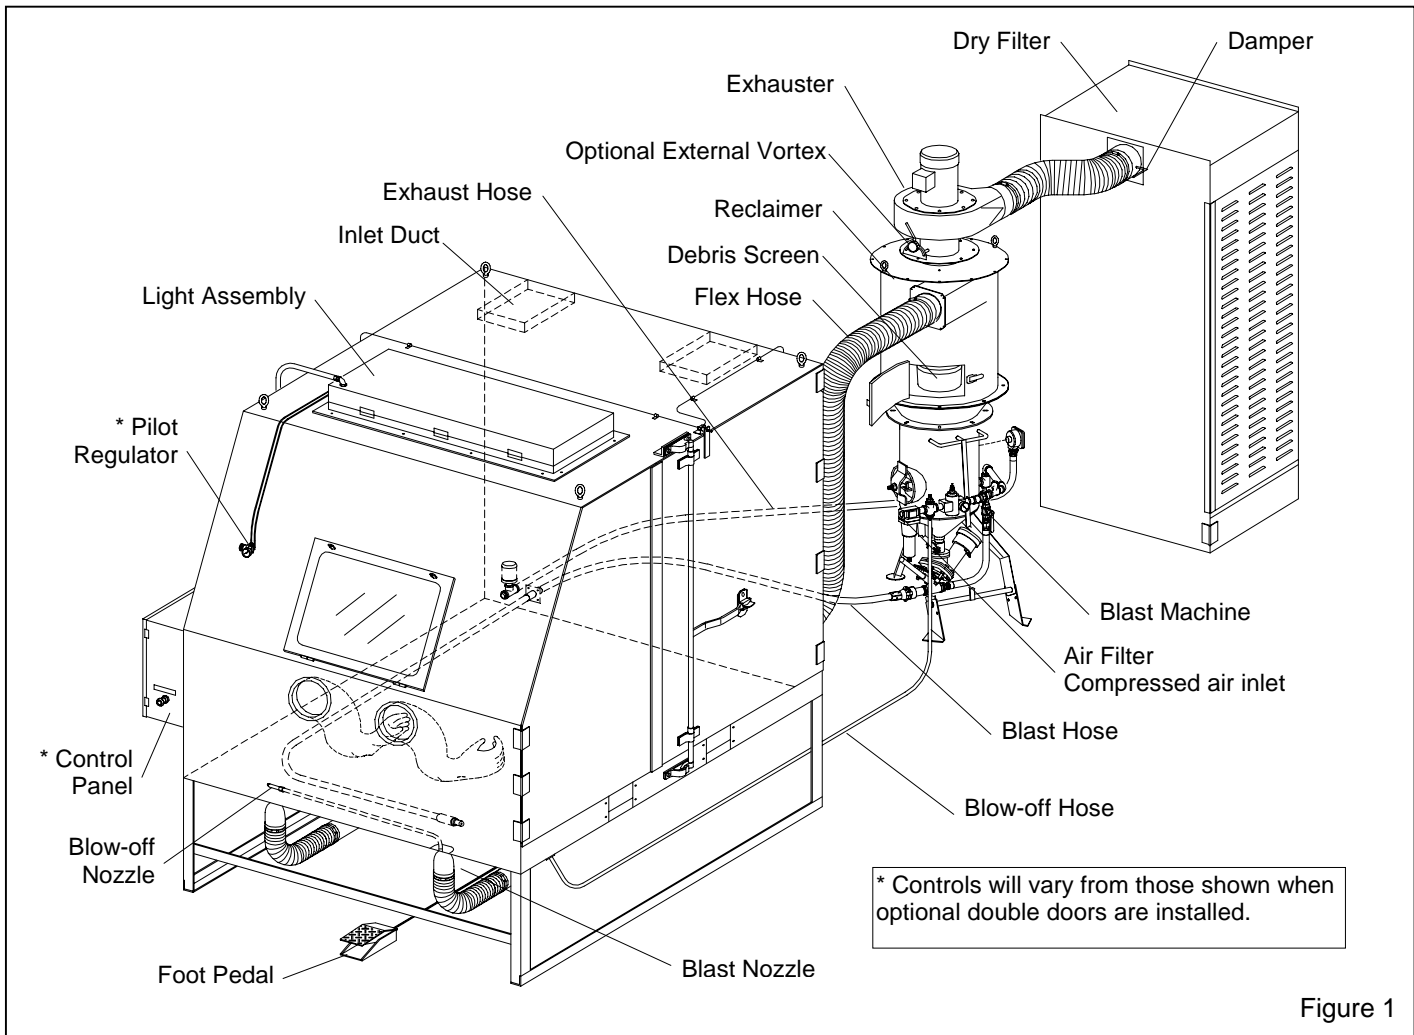
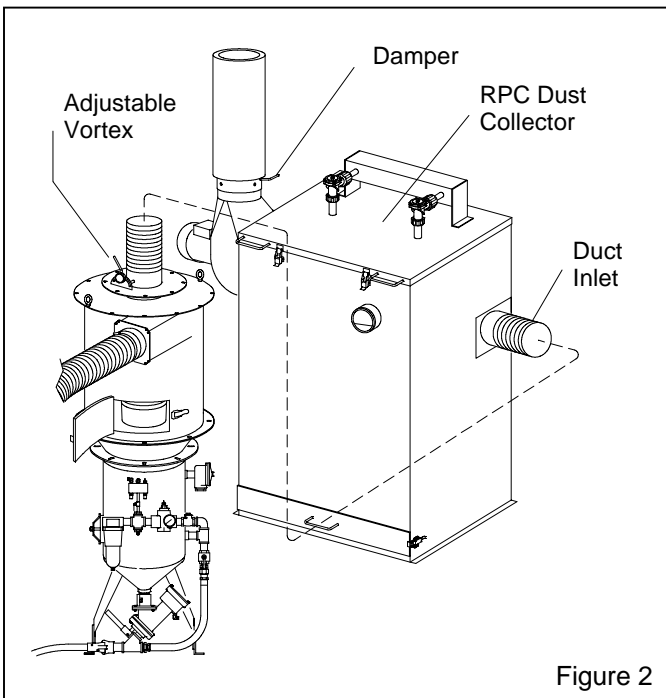
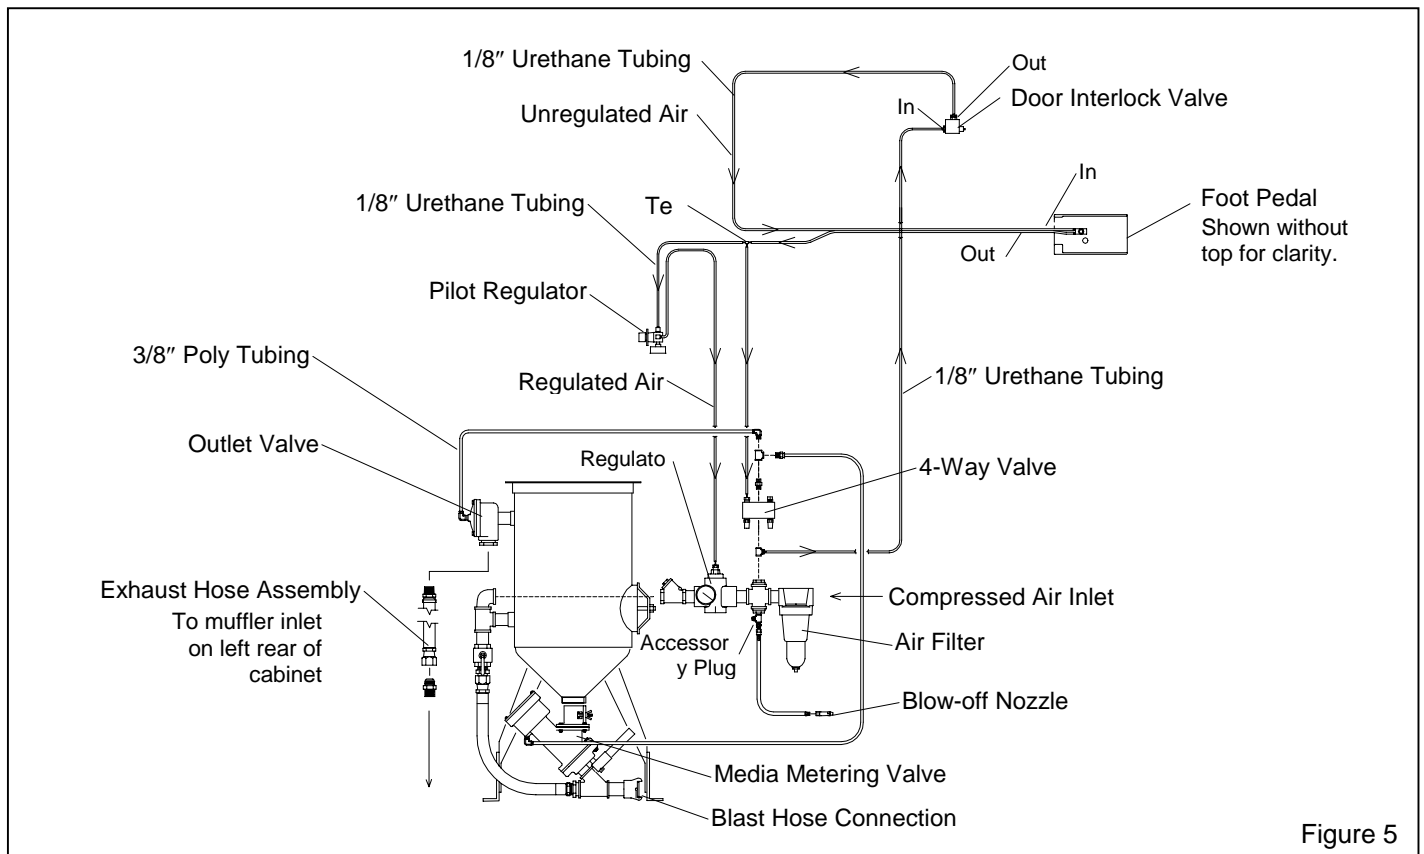

Figure 1
Figure 2
Figure 5
See Figure 1 for arrangement of components with a dry filter. Figure 2 shows the arrangement with a reverse pulse dust collector.
2.1.3 See Figure 1 (and 2 for optional reverse pulse collector) for the general arrangement and Figure 5 for control line schematic. Select a location where compressed air and electrical service are available. The cabinet location must comply with OSHA and local safety codes. Allow for full access to all doors and service areas, and for efficient handling of large parts. Provide enough clearance in front of the dust collector to remove the dust drawer without tipping. Ideally, locate the blast machine directly behind the cabinet with the blast hose connection toward the cabinet. The reclaimers may be rotated on the blast machine to enable hose connections with as few bends as possible. Determine the best location, and position all units before final assembly.
2.7.1 Attach the 1/2" blow-off hose coming from the front right cabinet hopper, to the compatible fitting on the blast machine piping, between the air filter and regulator. See the schematic in Figure 5.
2.10.1 Uncoil the 1/8" urethane control tubing, from under the cabinet. The end of each tubing is numbered 1, 2, 3 or 4. Connect the tubing to the adaptor with the corresponding number on the pressure regulator, piping, and 4-way air valve. Check the schematic in Figure 5 to confirm the connections.